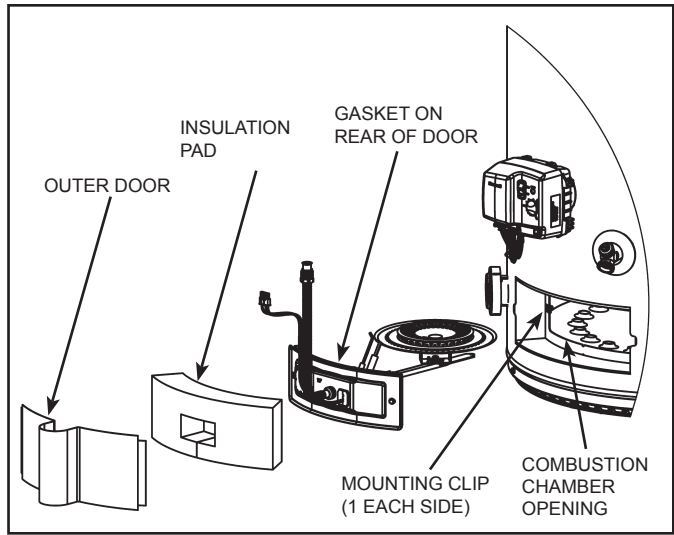

Figure 9. Burner Chamber Compartment Doors
9. Remove inner door/manifold/burner assembly by grasping the manifold and pull back slowly. Rotating it to the left to clear the igniter and flame sensor. Care should be taken when inner door and burner assembly passes through jacket opening that it does not damage any of the electrical wiring. See *Figure 9* (page 10).
**Note:** If the burner door gasket is worn or damaged it needs to be replaced. See *Replacing The Door Gasket*. (page 3). See *Figure 9* (page 10).
**Note:** If the burner door gasket is worn or damaged it needs to be replaced. See *Replacing The Door Gasket*. (page 3). See also *Figure 9* (page 8).
**Note:** If the burner door gasket is worn or damaged it needs to be replaced. See *Figure 9* (page 10). See also *Replacing The Door Gasket*. (page 3).